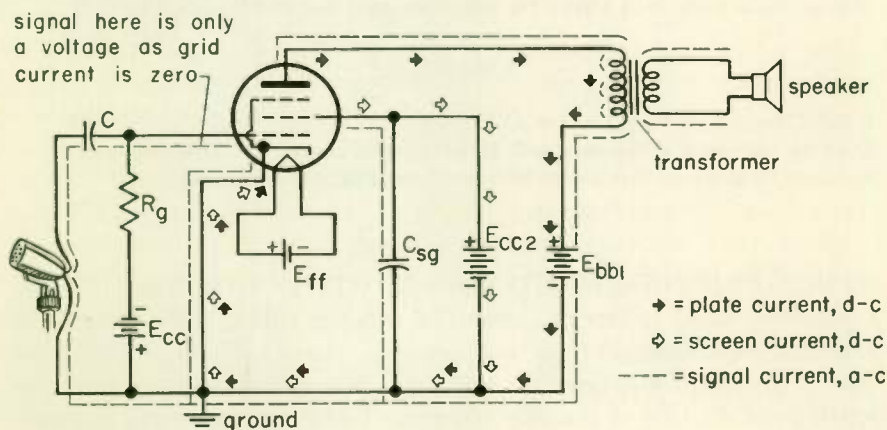

Fig. 17 Simplified pentode amplifier showing current flow.
13 THE PENTODE AMPLIFIER . . . Figure 17 illustrates a pentode amplifier. Notice that four voltage supplies are shown. E_{cc} is used for the control grid bias; E_{bb} is the plate supply; E_{cc2} is the screen grid supply voltage; and E_{ff} is the heater supply. You will see later how a single voltage source can be used to supply all these different voltages. As in the tetrode amplifier, C_{sg} is used to bypass the a-c variations in the screen grid directly to ground. Notice that the a-c in the screen circuit returns to ground by way of C_{sg} and the d-c returns to ground through E_{bb2} .
The suppressor grid is usually connected to the cathode. In many pentodes, the connection of the suppressor to the cathode is internal and is made by the tube manufacturer, as shown in Fig. 17. In some pentodes, however, the suppressor lead is not connected internally, and the connection to the cathode must be made externally by the user. A tube manual always indicates whether or not the suppressor grid is internally connected to the cathode.
1. Assume you were going to build the amplifier shown in Fig. 17. You selected a pentode but did not know if the suppressor grid was internally connected. Hence you would consult a (a) _____ . While you were checking on the information about this pentode, you should also find the recommended values of screen grid (b) _____ and _____ .
2. The purpose of R_g in Fig. 17 is to _____ .